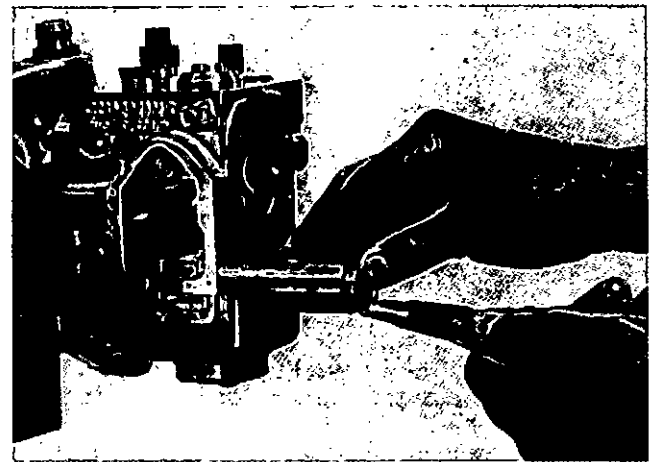

Fig. 8-7, (F560). Install the retaining ring of the spring assembly.
3. Install the maximum speed spring over the rear of the idle plunger guide. Assemble the shim against the spring. Install the retainer and the retaining ring to fasten the assembly in the governor sleeve, Fig. 8-7.